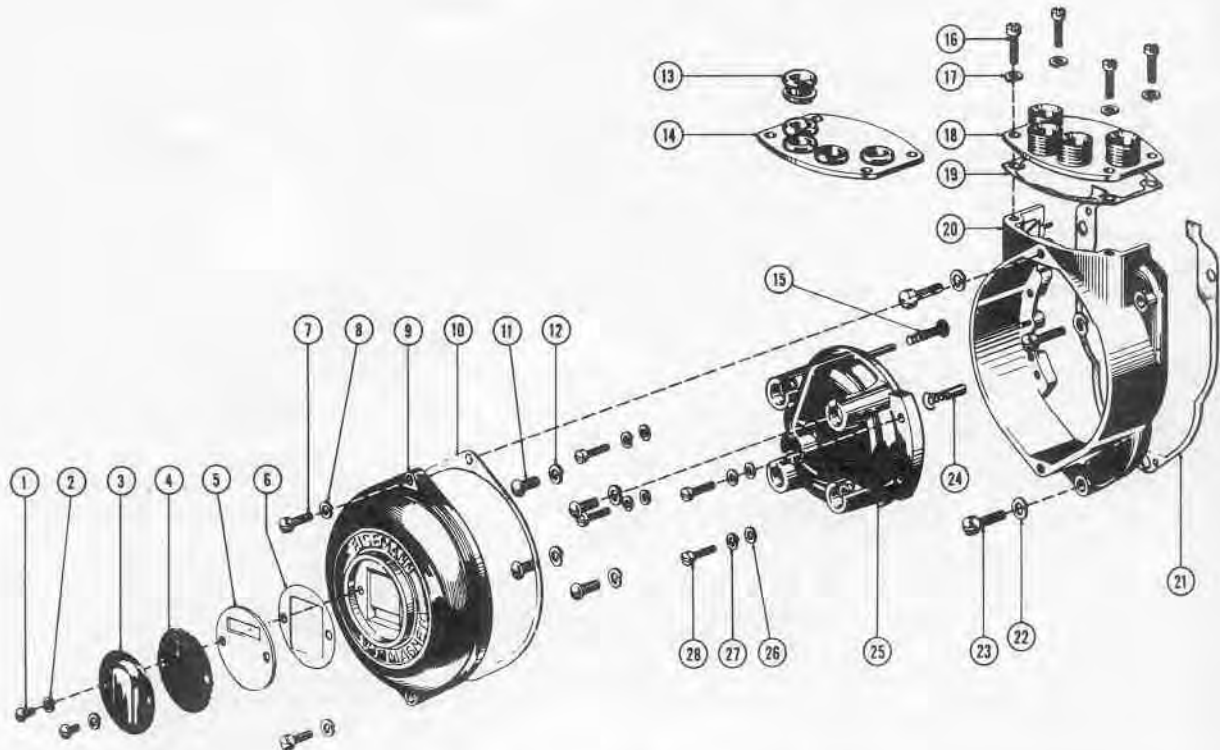

Figure 12. Model LA-4 End Cover and Adapter Assembly
(See figure 12). Remove the four screws (16) and lockwashers (17) fastening the top plate to the adapter and end plate assembly. Lift the top plate (14 or 18) from the magneto and inspect the grommets (13) or ferrules for security. Inspect the top plate gasket (19) and replace if necessary.